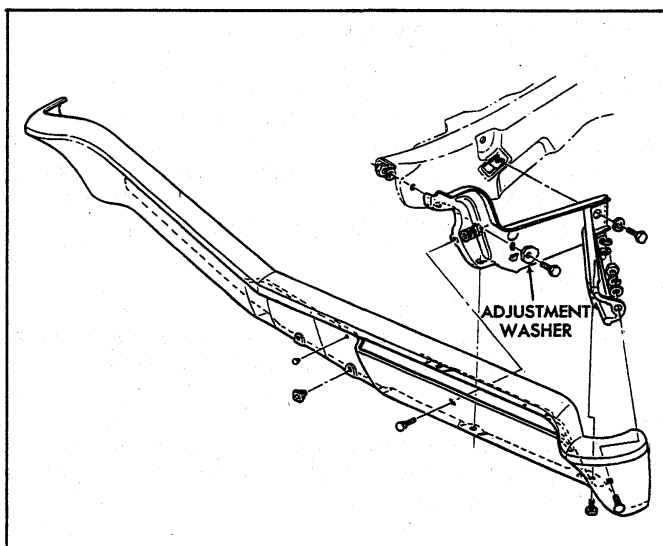

Fig. 3 - Front Bumper Assembly - Chevelle
2. Loosely install bolts, lock washers, and nuts. Note that eight sided adjustment washer (fig. 3) is placed in the tab of each mounting bracket. Dial the adjustment washers in the tabs as required to position the bumper at the correct mounted height.